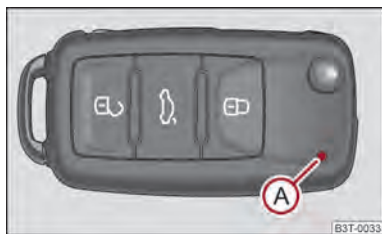
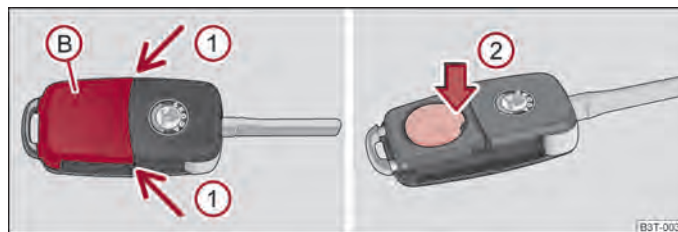

Fig. 10 Remote control key
Fig. 11 Remote control key - remove cover/remove battery
Two remote control keys are provided with the vehicle ⇒ fig. 10.
Each remote control key contains a battery which is housed under the cover (B) ⇒ fig. 11. If the battery is discharged, the red warning light (A) does not flash after you press a button on the remote control key ⇒ fig. 10. We recommend that you have the batteries of the key replaced by an authorised ŠKODA Service Partner. You should, however, proceed as follows if you wish to replace the discharged battery yourself:
- Press off the battery cover with your thumb or using a flat screwdriver at the points of the arrows (1) from ⇒ fig. 11.
- Remove the discharged battery from the key by pressing the battery downwards at the point of the arrow (2) ⇒ fig. 11.
This selection function enables to unlock all the doors, individual doors, both doors on the left and right vehicle side or to unlock the driver and front passenger door at the same time. The other doors and the fuel filler flap remain locked and are only unlocked after repetitive unlocking using the unlock button on the remote control key ⇒ fig. 10 or the button for the central locking system ⇒ fig. 13.